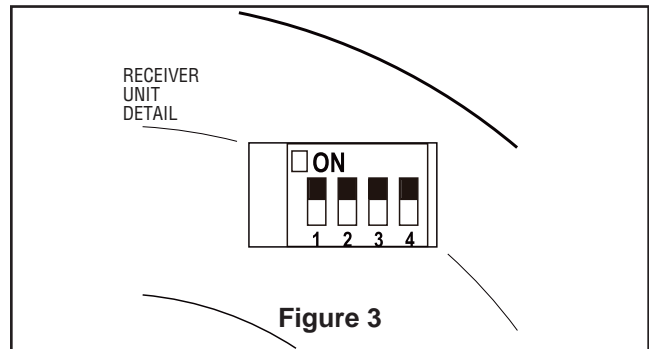

Figure 3
- 2. Carefully lift the fan and seat the downrod/hanger ball assembly on the hanger bracket that was just attached to the outlet box. Be sure the groove in the ball is lined up with tab on the hanger bracket (Figure 3).
2. To set the receiver unit code, slide code switches to the same positions as set on your transmitter (Figure 3).